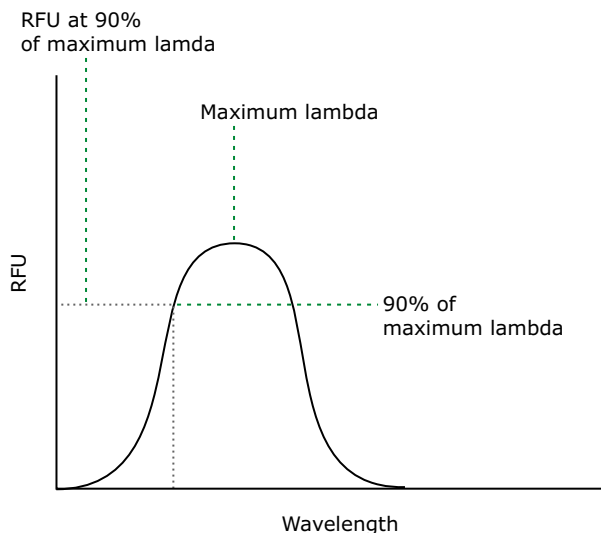

Figure 3-36: Plot of RFU vs. Wavelength
- ♦ If the excitation and emission wavelengths are less than 80 nm apart, use the shortest excitation wavelength that gives 90% maximal emission. Follow the plot to the left of the peak until the RFU value falls to approximately 90% of the maximum, and then drop a line from the 90% point on the plot to the x-axis. See Figure 3-36.